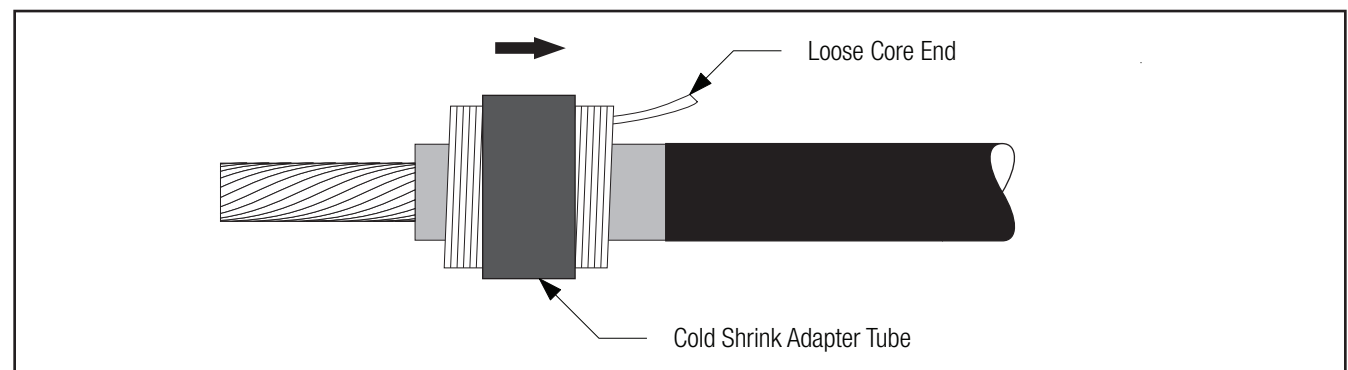

Figure 7
3.4 For 350 and 500 kcmil copper connectors, or connectors with an O.D. between 0.80–1.04" (20,3–26,4 mm): Slide the cold shrink adapter tube onto the insulation with the loose core ribbon end going on first, away from the cable end (Figure 7).